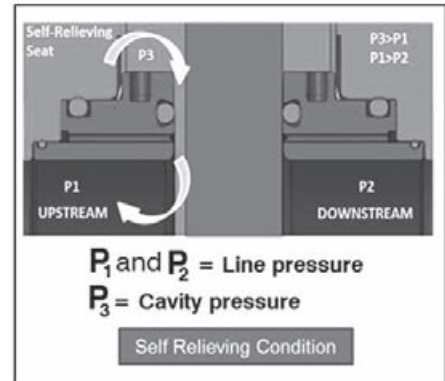

Figure 7: Self-relieving mechanism
- Self-relieving as per API 6D, last edition [Figure 7]:**